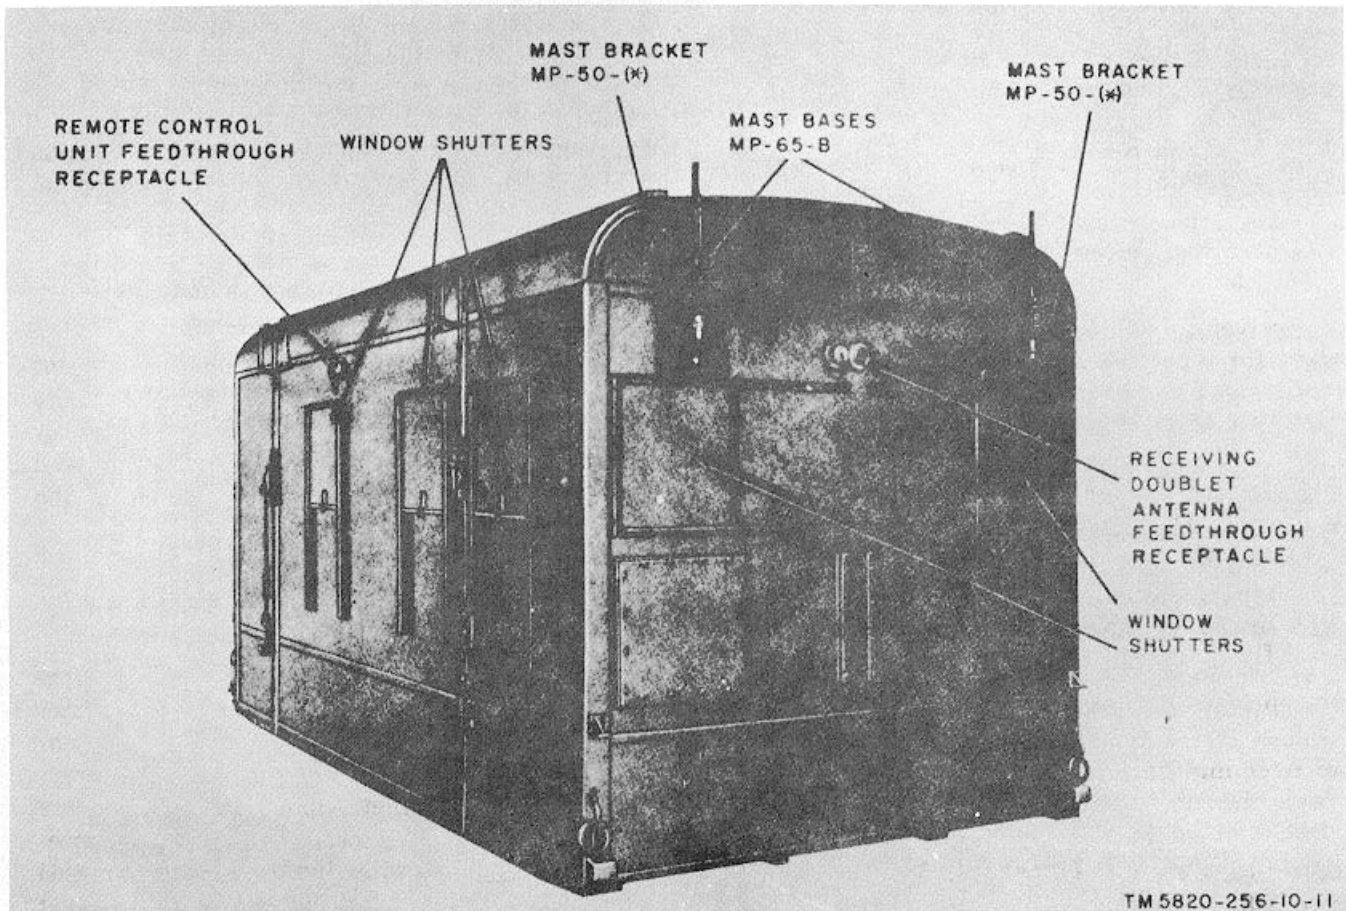
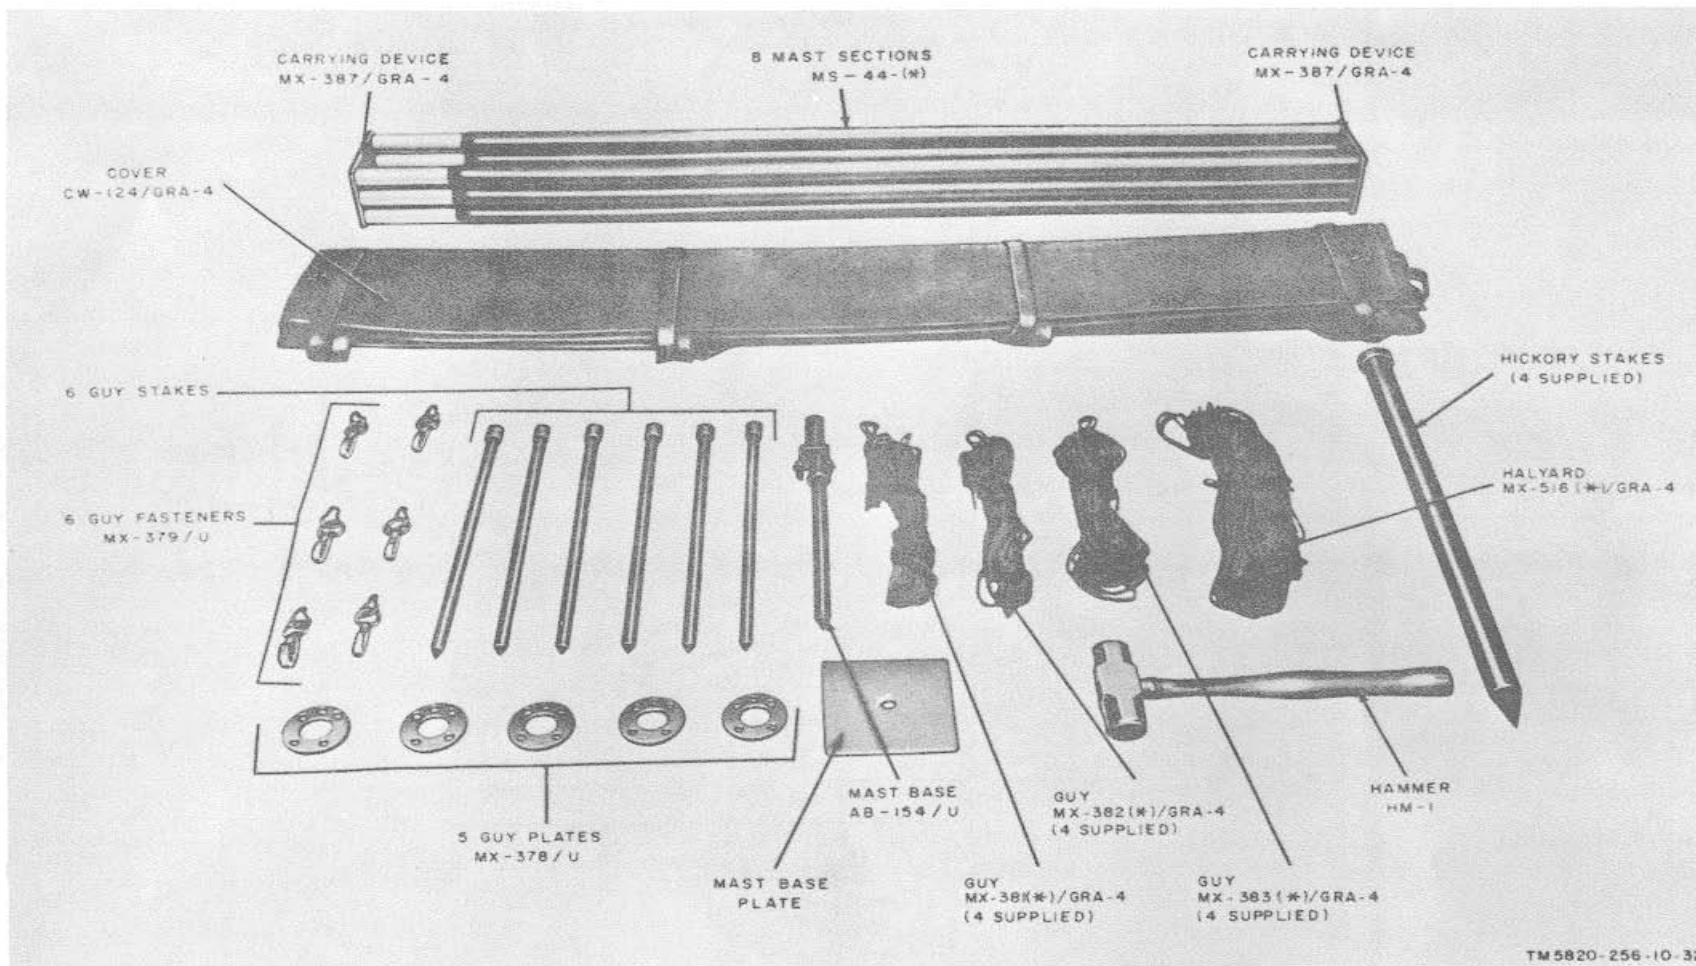

Figure 1-2. Shelter, Electrical Equipment S-56(*)/G, front oblique view.
Figure 1-17. Mast AB-155(*)/U, components.
a. The shelter (fig. 1-2 and 1-3) is an insulated steel and plywood structure that houses the components of the radio set. Six wall windows and the window in the rear door have screens and shutters. A roof hatch is provided in Shelter, Electrical Equipment S-56A/G only. The windows and hatch may be opened for ventilation. Interior wiring, electrical outlets, fluorescent lights, a window fan, and a ventilating blower are permanent parts of the 'shelter. Housekeeping and firefighting equipments are mounted in the shelter.
d. The connections between the doublet antennas and the receivers are made through the receiving doublet antenna feedthrough receptacle (fig. 1-2) on the front wall of the shelter. The connections to the remote line are made through the remote control unit feedthrough receptacle in the curbside wall of the shelter. Connections to the whip antennas are made through feedthrough receptacles in each whip mount
(1) Each receiving whip antenna consists of two Mast Sections MS-116A, one Mast Section MS-117-A, and one Mast Section MS-118-A, which are assembled and inserted in Mast Base MP-65B. Mast Base MP65-B is mounted on Mast Bracket MP-50-(*), which is secured to the front exterior wall of the shelter (fig. 1-2). The whips are tied down with insulated guy assemblies when the radio set is operated while in motion.
(2) The transmitting whip antenna consists of three Mast Sections MS-116-A, one Mast Section MS-117-A, and one Mast Section MS-118-A, which are assembled and inserted in Mast Base MP-76. Mast Base MP-76 is mounted on Bracket MT-657/GRC and secured to the outside rear wall of the shelter. An insulated guy assembly is provided to tie the transmitting whip antenna in a horizontal position when the radio set is operated while in motion.
e. *Doublet Antennas*. Six Masts AB-115(*)/U (fig. 1-17) and 1,000 feet of Wire W-1 are furnished for the construction of half-wave doublet antennas. At frequencies from 1.5 to 4.0 MHz, three Masts AB-115(*)/U are used to support each doublet antenna; therefore, two antennas may be erected: one for receiving, and one for transmitting. At frequencies from 4.0 to 20.0 MHz, where shorter wire lengths are required, two Masts AB-115(*)/U are used to support each doublet; therefore, three antennas may be erected: two for receiving, and one for transmitting. Two Cable Assemblies, Radio Frequency CG-1334/U, each 500 feet long, are used for receiving antenna lead-ins. One RF Cable Assembly CG-692/U, 75 feet long, is used as a transmission line for the transmitting doublet. Figure 1-17 shows the components of one complete Mast AB-115(*)/U.
(1) Place Mast AB-155(*)/U at each mast location and remove Cover CW-124/GRA-4 from Carrying Device MX387/GRA-4 (fig. 1-17).